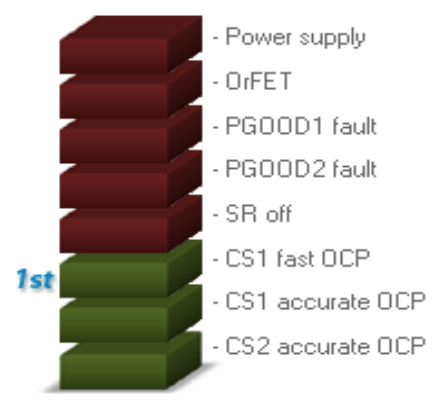

Figure 28 - Corresponding 'Flags and Readings' window. CS1 Fast OCP was the first flag that tripped
- C. **CS1 Fast OCP:** Figure 27 and Figure 28 show the CS1 fast OCP tripping under a shorted output. In this test the CS1 pulse by pulse current limit was tested during a shorted output. A shutdown was programmed after 4 repetitive OCP limits were triggered.